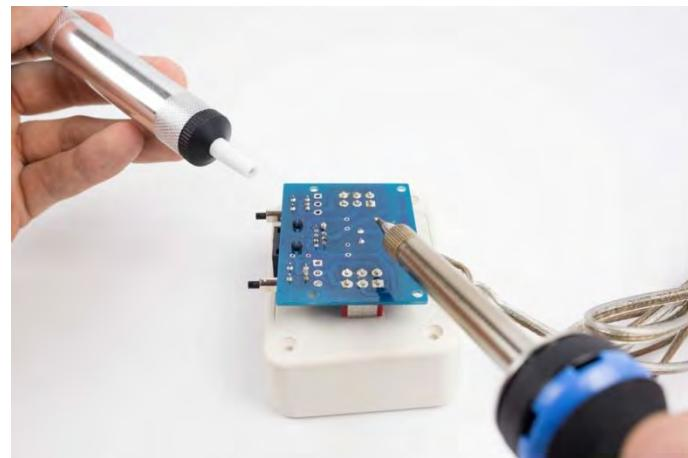

Figure 8
- Press the button while keeping the tip of the pump in place, causing the plunger to retract and remove the melted solder. (Figure 8)